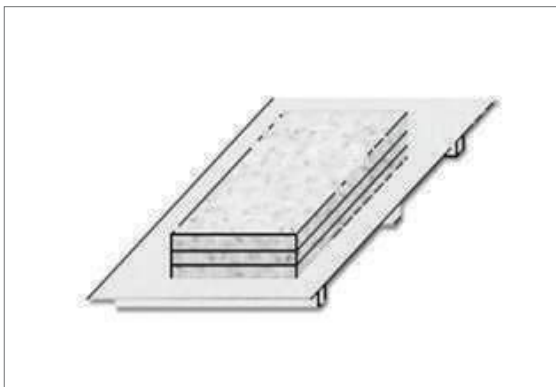

Fig. 1
- HIMACS sheets should always be stored flat on sturdy pallets with a cover board placed on the pallet before stacking the sheets (Fig. 1).